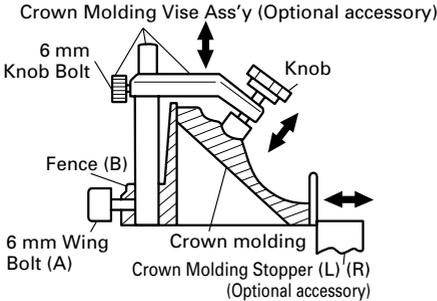

Fig. 20
- (2) The crown molding vise (B) (Optional accessory) can be mounted on either the left fence (Fence (B)) or the right fence (Fence (A)). It can unite with the slope of the crown molding and vice can be pressed down. Then turn the upper knob, as necessary, to securely attach the crown molding in position. To raise or lower the vise assembly, first loosen the 6 mm wing bolt. After adjusting the height, firmly tighten the 6 mm wing bolt; then turn the upper knob, as necessary, to securely attach the crown molding in position (See Fig 20).
Position crown molding with its WALL CONTACT EDGE against the guide fence and its CEILING CONTACT EDGE against the Crown molding Stoppers as shown in Fig. 20. Adjust the Crown molding Stoppers according to the size of the crown molding. Tighten the 6 mm wing bolt to secure the Crown molding Stoppers.